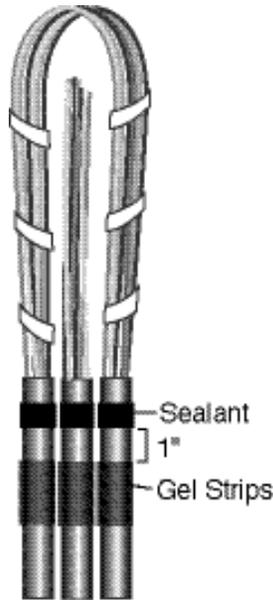
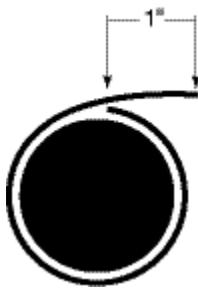
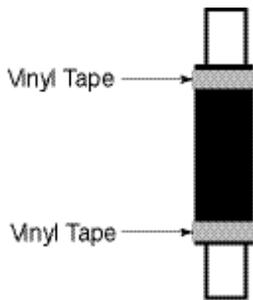

Figure 16
Figure 17A
Figure 17B
- Wrap the gel end seal strips around each cable 1" beyond the sealant collar. (Figure 16) Use one complete wrap plus an additional 1" overlap. (Figure 17A) Vinyl tape may be used to hold in place. Tape only on outer edges as shown in Figure 17B.